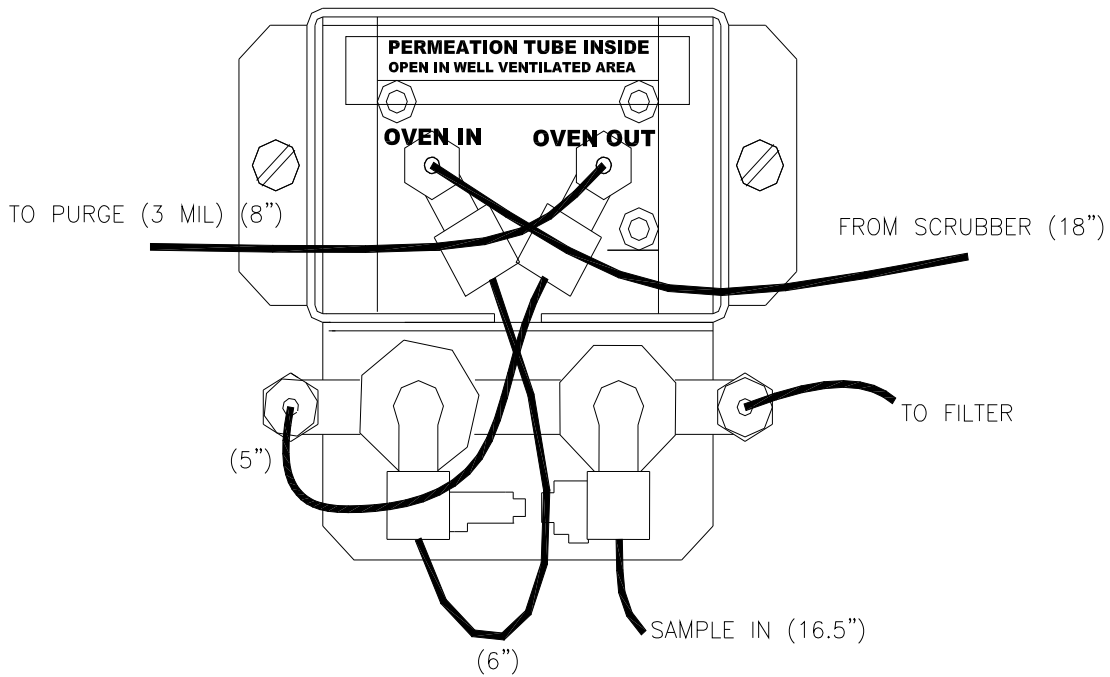

FIGURE 4.
14. Connect the tubing from the particulate filter to the COM port of the ZERO valve shown in FIGURE 4.
15. Connect the tubing from the Sample inlet port to the NO port of the ZERO valve as shown in FIGURE 4.
16. Install the two (2) ZERO AIR SCRUBBER brackets on to the rear panel.